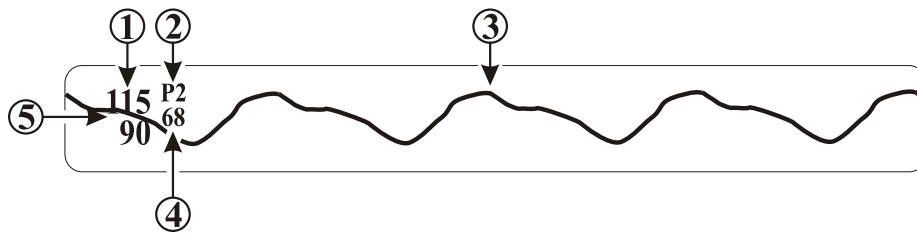

Figure 4-7. The Invasive Pressure Display
4.3.3 Associated Displays. (See **Figure 4-7**) Invasive Pressure is displayed in the Trace B and Trace C location. Invasive Pressure 1 (P1) is located in Trace B and Invasive Pressure 2 (P2) is located in Trace C. The following is a description of the Invasive Pressure display: